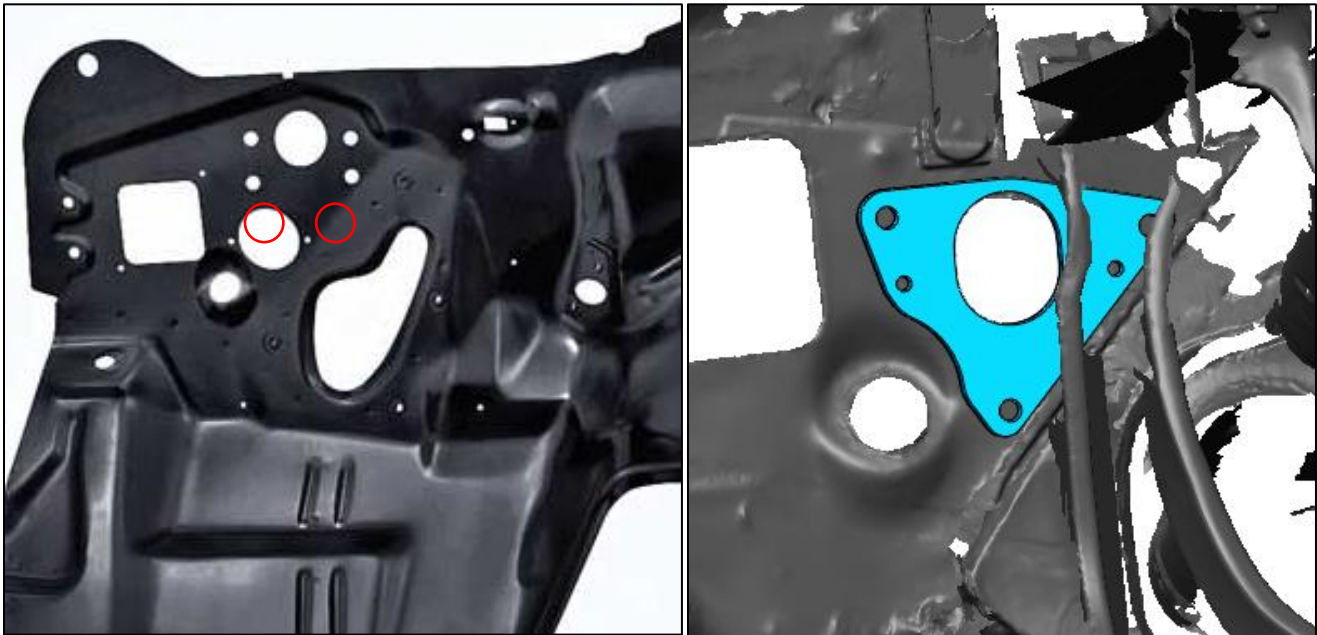

Figure 1: Firewall Mounting Hole
11. The master cylinder will mount to the area left of the steering column plate. Use the clutch master cylinder reinforcement plate to mark your mounting holes as shown in Figure 1.